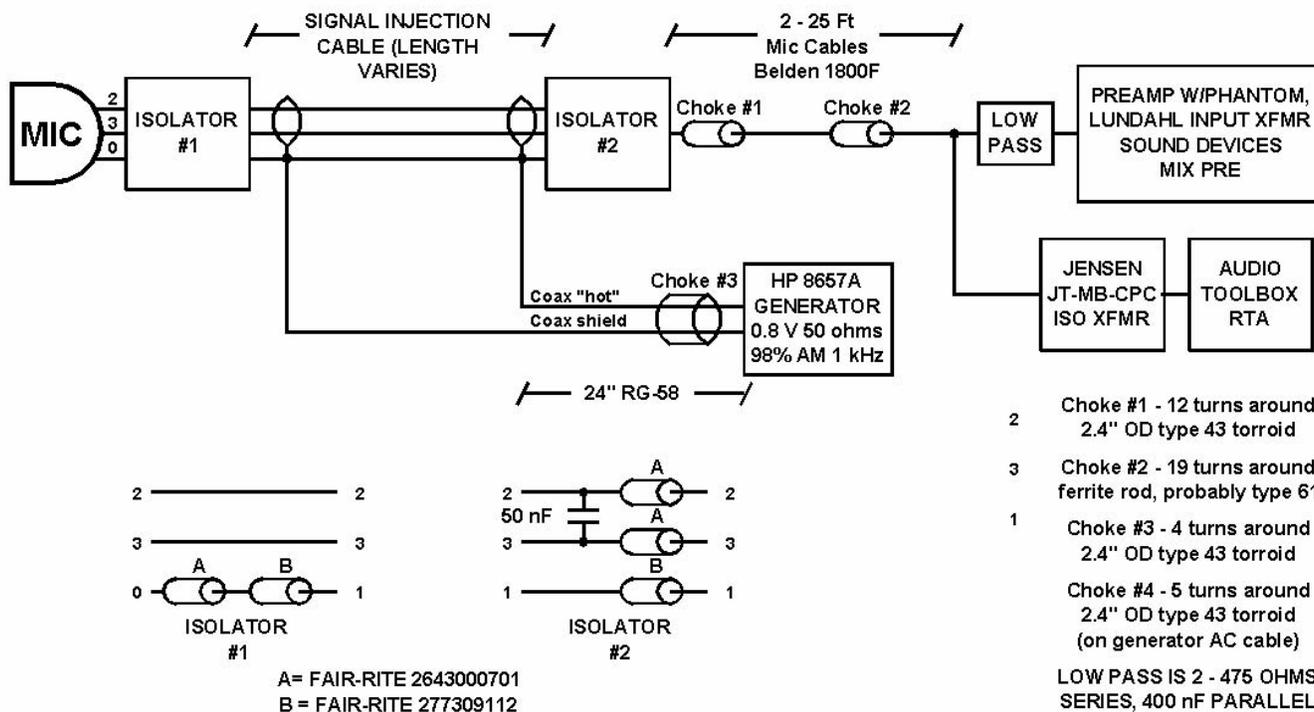

Fig 1 – Test setup for susceptibility of microphones to RF on the signal pair.
of how that circuit works. The same technique can be used to inject RF onto the balanced output terminals of a piece of audio gear. Figure 1 shows a test setup that I developed to test microphones.
4. This whole distribution scheme can be described using a power model, voltage model, or impedance model. All three are included in Figure 1.